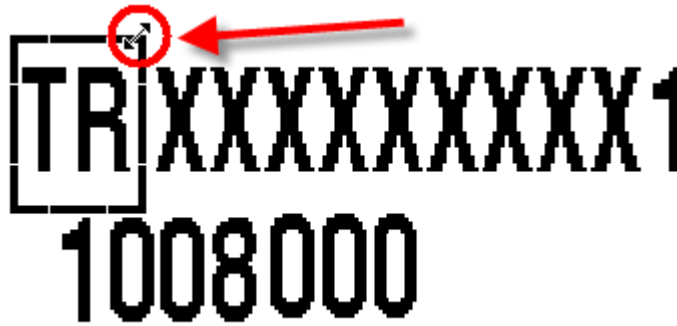

Figure 1-14
1.18.5. Click and drag the cursor while it's a double arrow to resize the field. (Figure 1-14)